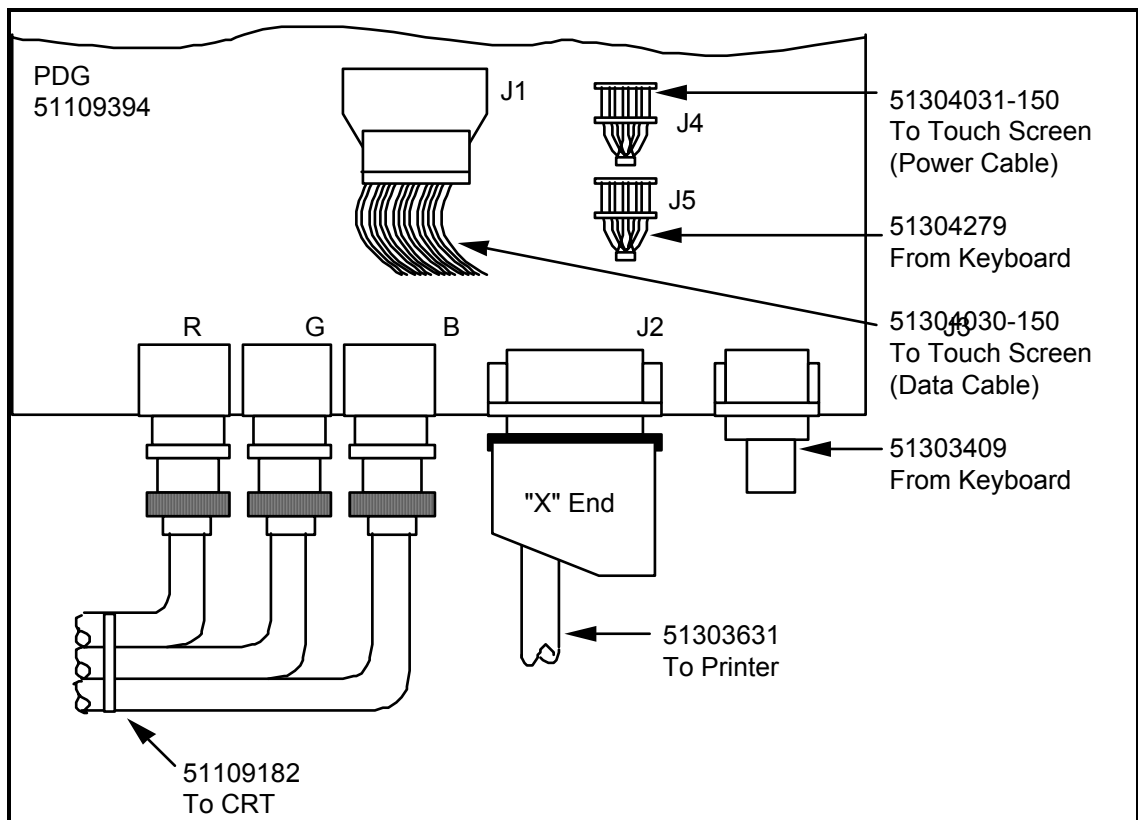

Figure 7-2 — PDG I/O Board Cable Connections
- Connect the cable to J4 on the PDG I/O (EPDG I/O or EPDGP I/O) board as shown in Figure 7-2.
- Connect the cable to J1 on the PDG I/O board as shown in Figure 7-2. The EPDG I/O or EPDGP I/O board connections are the same.